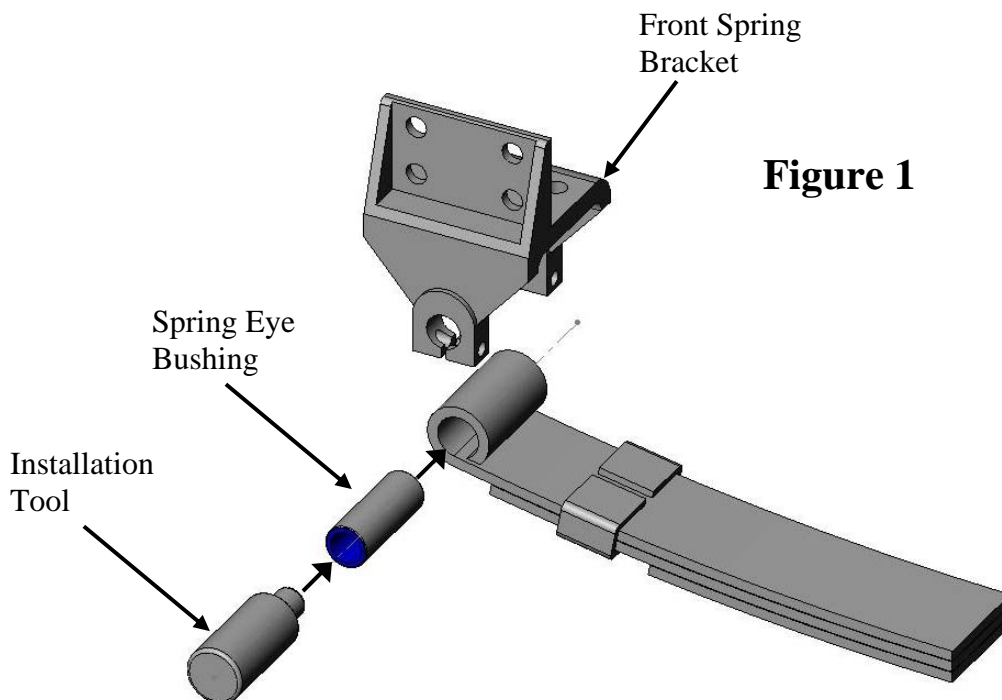

Figure 1
2. Insert the correct bushing installation tool into the **ATRO®** leaf spring bushing. (Refer to Figure 1)